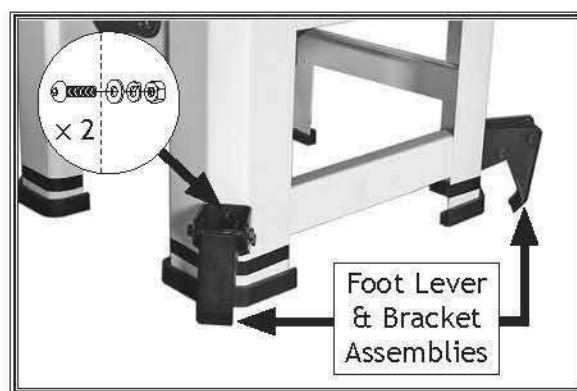

Figure 12. Lever assemblies installed.
1. Install foot lever & bracket assemblies (see **Figure 12**) on right front and rear stand legs with pre-installed (2) M8-1.25 × 16 button head cap screws, (2) 8mm flat washers, (2) 8mm lock washers, and (2) M8-1.25 hex nuts.